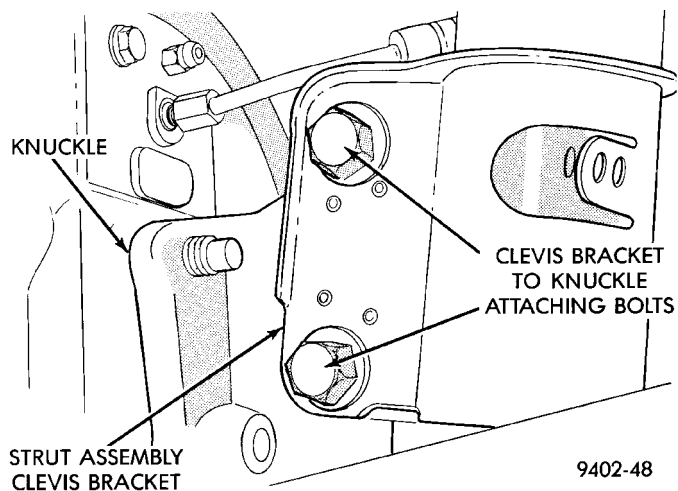

Fig. 5 Knuckle To Clevis Bracket Bolts
(5) Remove the 2 clevis bracket bolts (Fig. 5) attaching strut assembly to rear knuckle.
(4) Install knuckle assembly into clevis bracket on strut assembly. Install the 2 clevis bracket to knuckle assembly attaching bolts and nuts (Fig. 5). Torque both clevis bracket to knuckle assembly attaching nuts to 95 N·m (70 ft. lbs.).